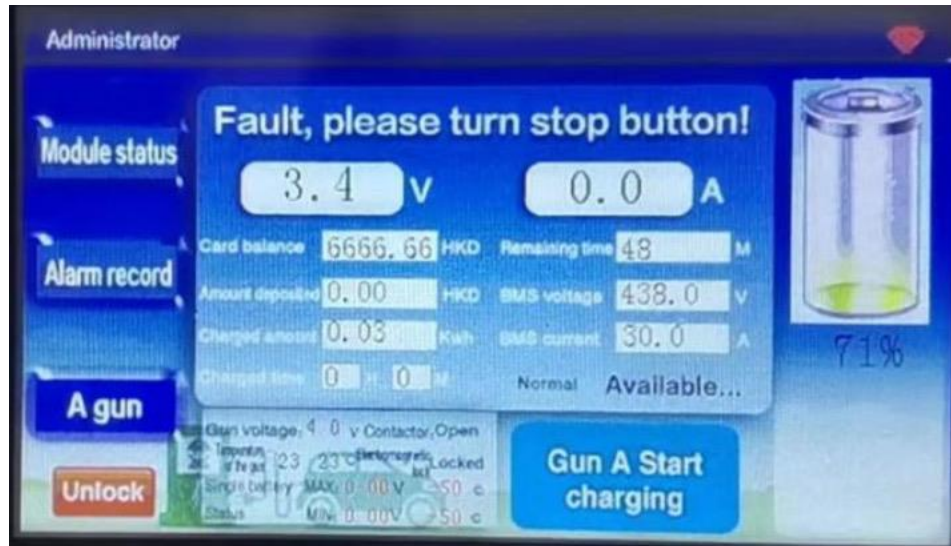

Figure 6-2-4
- 4) During the charging process, in case of an emergency shutdown, press the emergency stop button. The charging station indicator light will turn red, and the display screen will show the prompt "Fault, please turn stop button!" as illustrated in Figure 6-2-4.